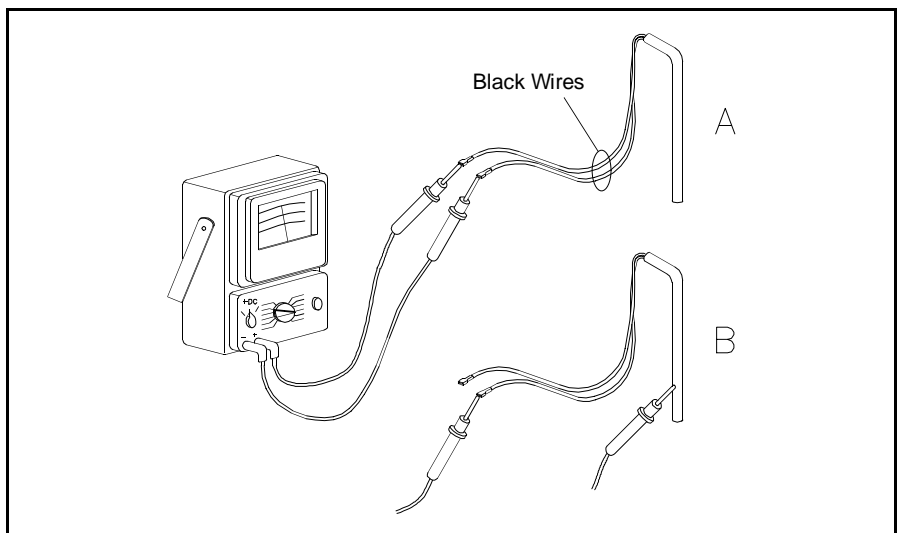

Figure 4.50 AC Heater Resistance Check
- B. If 120 Volts AC is present, check resistance of A/C Heater element as shown in Figure 4.50. If not within the allowable specification (see Technical Data section), replace with one of the correct size and wattage.